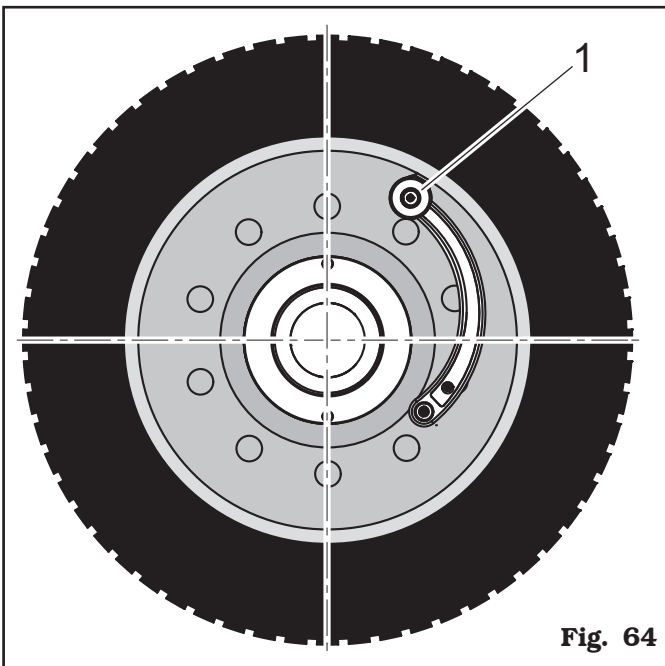

Fig. 64
Bring the gauge ferrule (**Fig. 64 ref. 1**) on the inner edge of the wheel UPWARDS, touching the diameter point used previously for the "A" measurement detection (**Fig. 63**), display D2 will show a bit value.